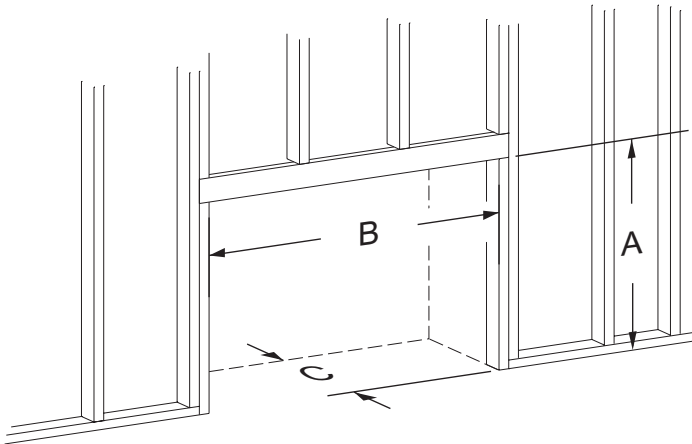

Figure 39 - Rough Opening for Installing in Wall
- Use dimensions shown in **Figure 39** for a conventional rough opening.
TABLE 3 - FRAMING DIMENSIONS (in inches) FOR FIGURES 39 - 41